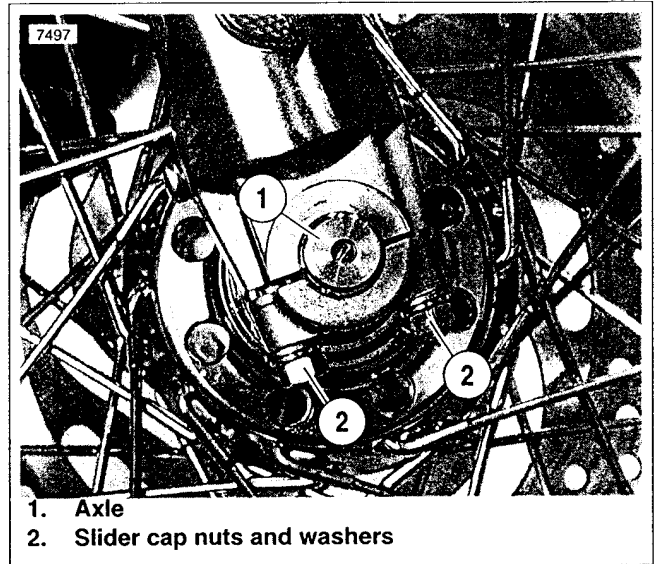

Figure 2-4. Front Wheel Mounting: FXDWG (Right Side)
4. Remove axle nut, lockwasher and washer (3).
- a. See Figure 2-4. For FXDWG models, loosen the slider cap nuts (2) and pull the axle (1) free.
- b. See Figure 2-4. On FXDWG models, tighten the slider cap nuts to 60-132 in-lbs (6.8-14.9 Nm).